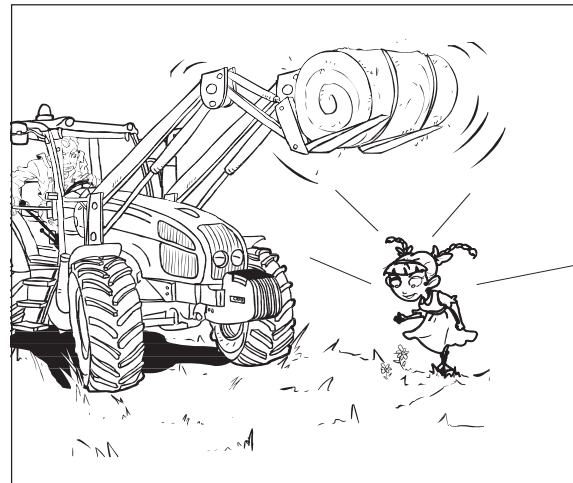

Fig.2-17
- Keep others away from your operation area. Never allow anyone to stand or pass under a raised implement (Fig.2-17).
WARNING: NEVER lift a load over anyone (Fig.2-17).